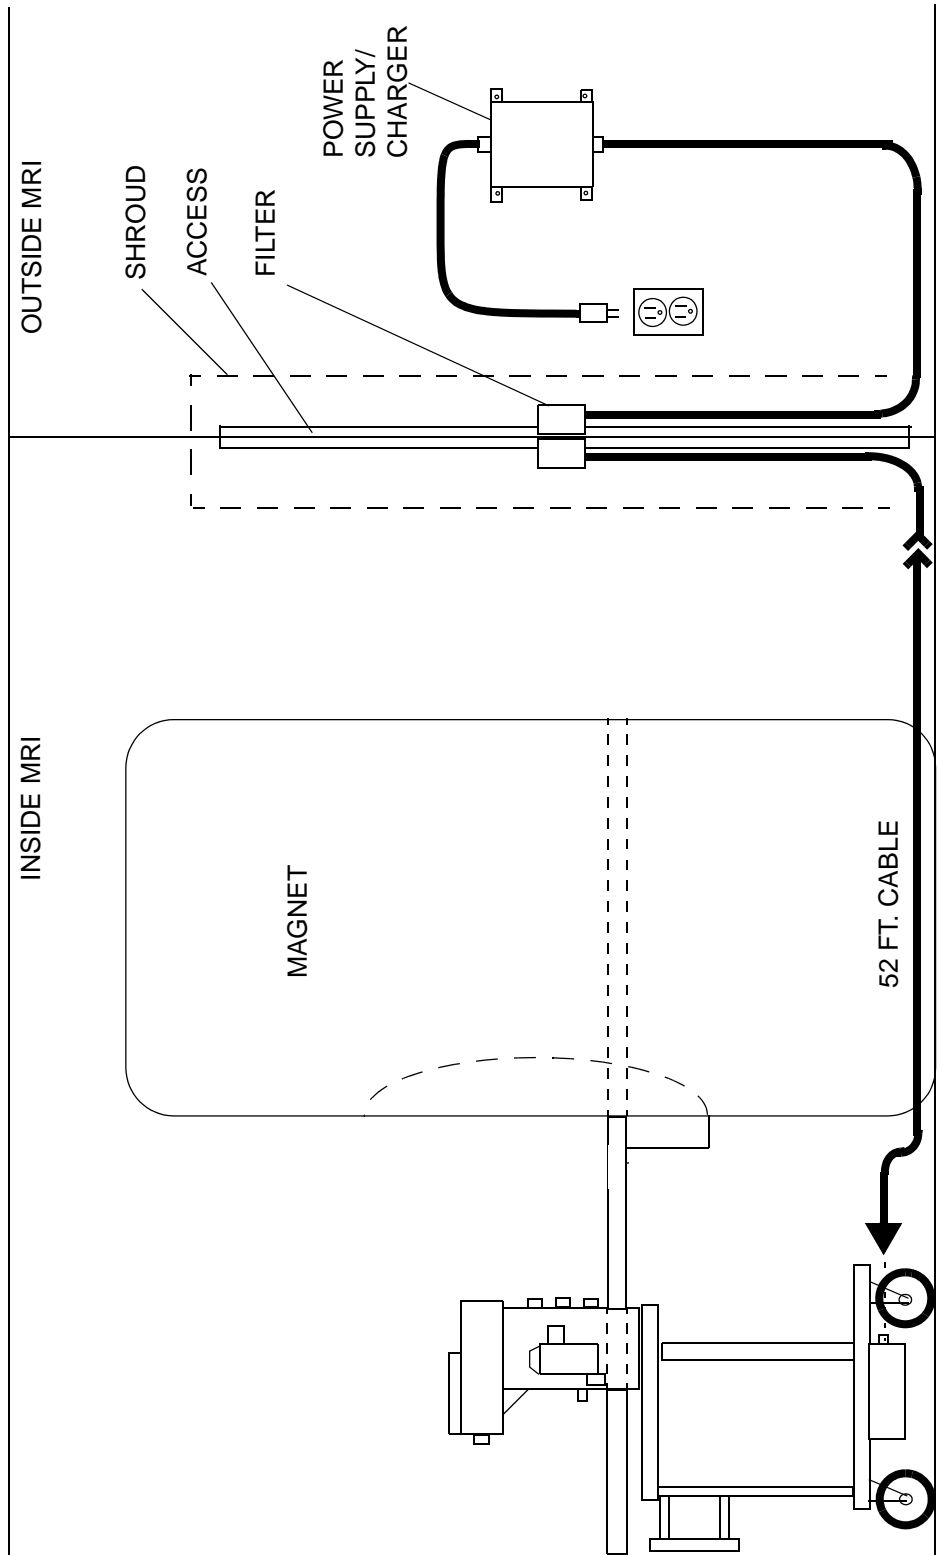

FIGURE 3. MRI Installation Profile
11. Reinstall any shroud cover inside the MRI room that was previously removed. Ensure that the DC power cable is accessible for connection to the machine's cable. See Figure 3.